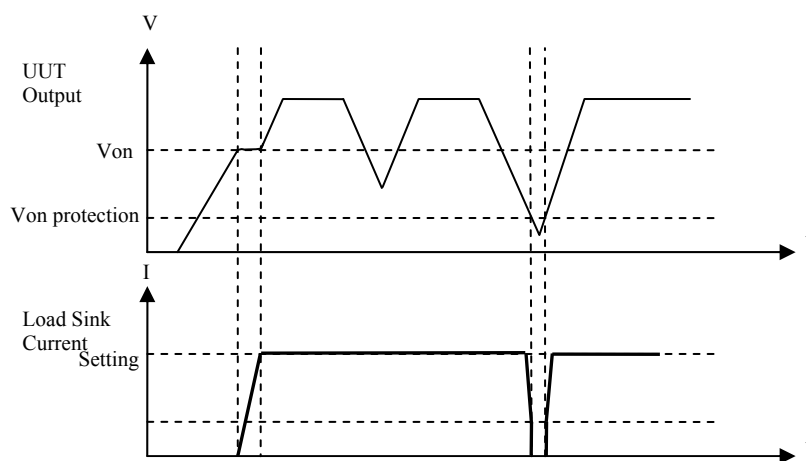

Figure 3-17 When Von Point is not set to 0V with Protection
- (3) When it is “LOAD ON”, VON POINT is not set to 0V and Von Protection is enabled, switch the SW to on after it was turned off for a period of time and then turn it off again. There will be no current loading when the power is lower than the default protection voltage, and once the SW is turned off and the power is larger than the default voltage, the loading state will regain as Figure 3-17 shows.